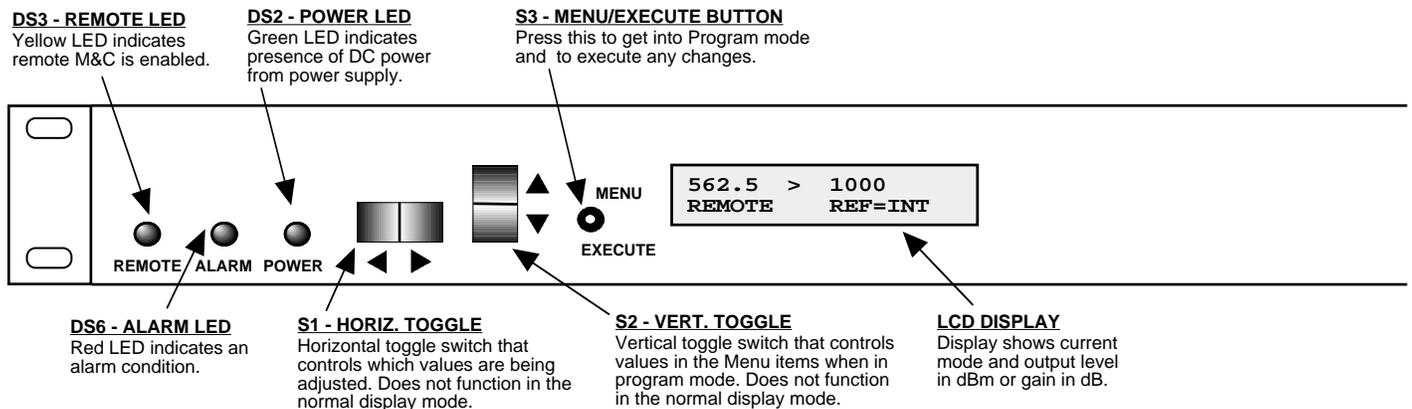

FIGURE 2.2 2083-910 Front Panel Controls and Indicators
Figure 2.2 shows the front panel controls and indicators.
5. Be sure DS6 (green, DC Power) is on and DS2 (red, Alarm) is off (Figure 2.2).
Alarm indications appear on the LEDs (see Figure 2.2).